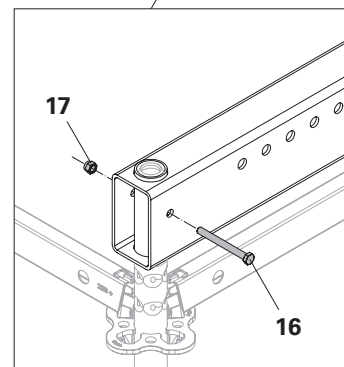

Fig. A5.01b
2. The Ledgers URL (**15**) are attached to the standards by means of 2x bolt ISO 4014 M10 x 100 (**16**) and nuts ISO 7040 M10 (**17**) respectively. (Fig. A5.01b)